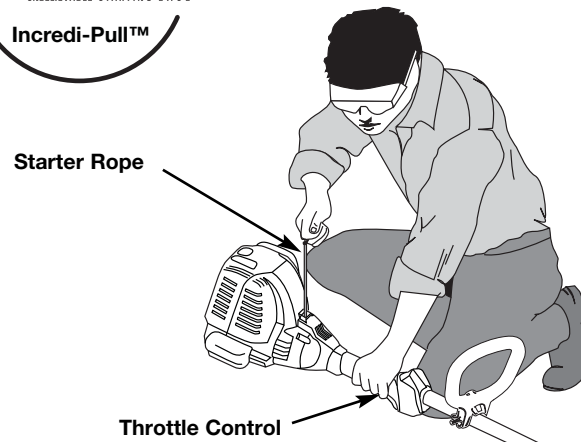

Fig. 8
WARNING: Avoid accidental starting. Make sure you are in the starting position when pulling the starter rope (Fig. 8). To avoid serious injury, the operator and unit must be in a stable position while starting.
5. Crouch in the starting position (Fig. 8). While squeezing the throttle control, pull the starter rope out with a slow and steady motion 5 times.